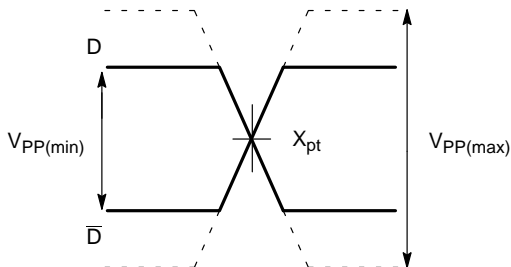

**Figure 11. Differential Input/Output Crosspoint**
**Section Note** – This section explains concepts that only apply for differential inputs and/or outputs. Differential inputs and outputs have true and inverted pins, and are often referred to as “complimentary” inputs and outputs. An example of a differential input is a true data input (D), and an inverted data input ( $\bar{D}$ ).
**Differential Crosspoint** – Differential crosspoints are used as a measurement point for differential input and differential output signals. A differential crosspoint ( $X_{pt}$ ) is located where the true and inverted inputs or outputs intersect as shown in Figure 11.